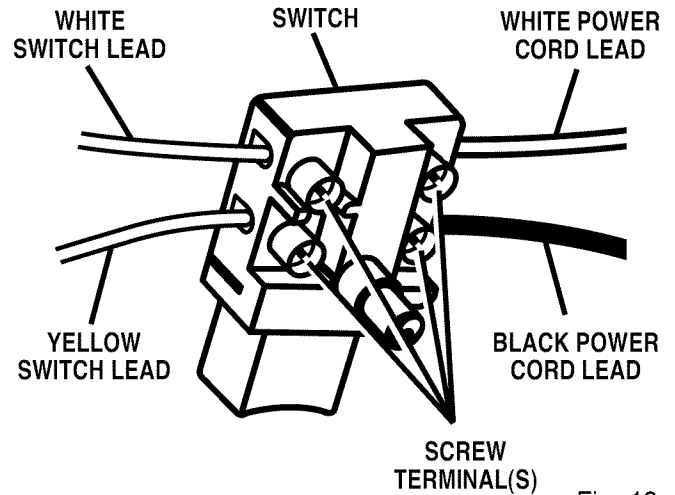

Fig. 13
- Using a small flat blade screwdriver, loosen the screw terminal for each switch lead. See Figure 13.